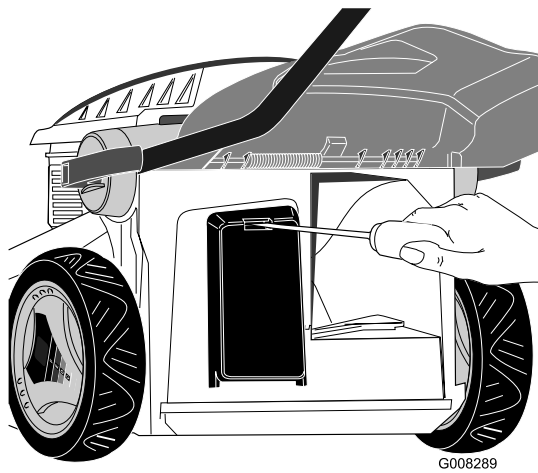

Figure 25
- Open the cover to the battery compartment (Figure 25).